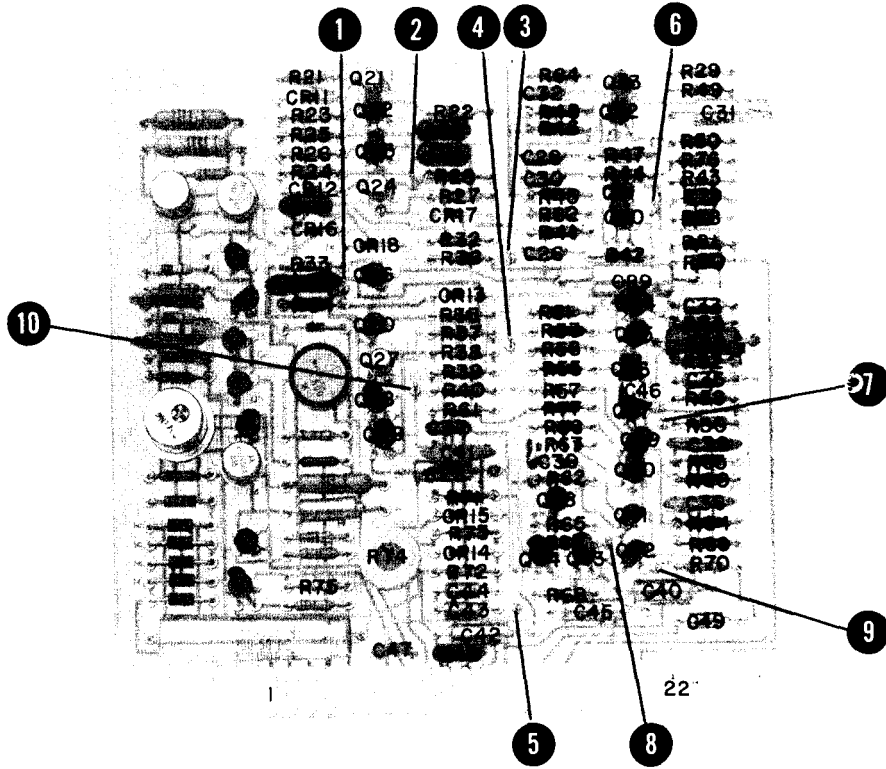

Figure A1-1. A2 Meter Logic Component Locations
- CHANGE 4**                      Figure A1-1, A1-2, A1-3 and Table A1-1 and A1-2 apply to 432A Power Meters with serial prefix 843 and below.